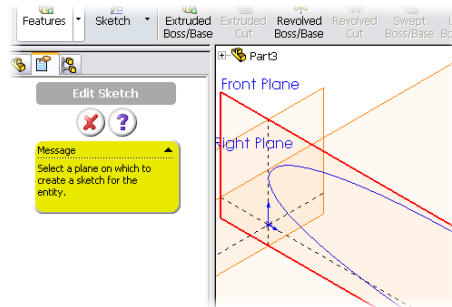

Figure 2: Select the Front Plane when creating the sketch
- Now create a sketch and click on the plane that the aerofoil coordinates are in to select its orientation. (Insert -> Sketch and select the front plane – see Figure 2)